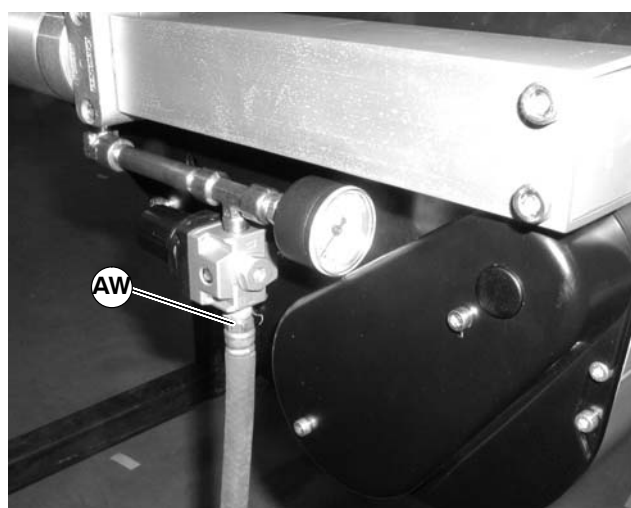

Figure 103
1. Remove air supply (AW of Figure 103) from center drive module.